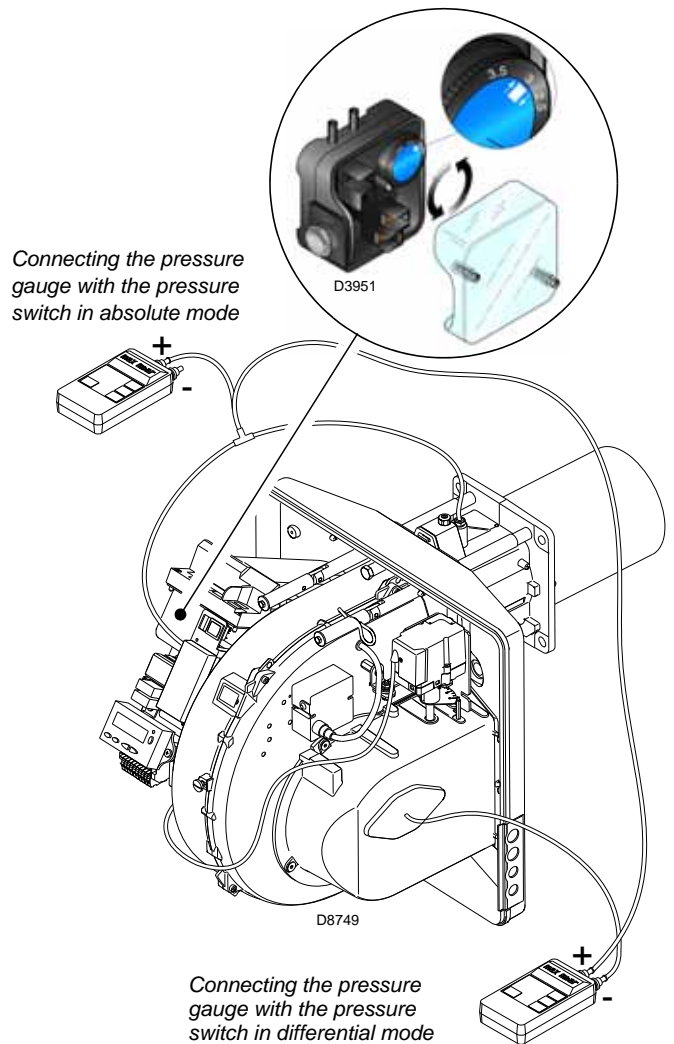

Fig. 30
- Adjust the air pressure switch (Fig. 30 at page 32) to the start of the scale.
Adjust the air pressure switch (Fig. 30) after having performed all other burner adjustments with the air pressure switch set to the start of the scale.
The connection of the pressure gauge is shown in Fig. 30.
In certain applications in strong depression situations, the connection of the pressure switch does not allow it to change over. In this case it is necessary to connect the pressure switch in differential mode, applying a second tube between the air pressure switch and the fan suction line mouth. In this case also, the pressure gauge must be connected in differential mode, as shown in Fig. 30.